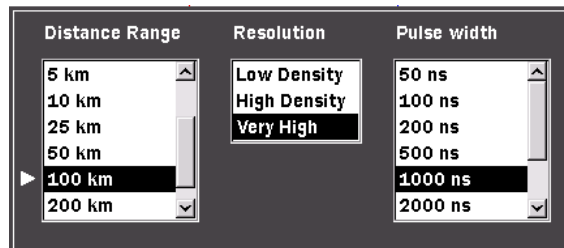

Figure 4-22: Range/Resolution/Pulse Width Dialog box
1. Press **Range/Pulse Width (f4)**, the Distance Range, Resolution, and Pulse width dialog box appears (see Figure 4-22 on page 4-67).